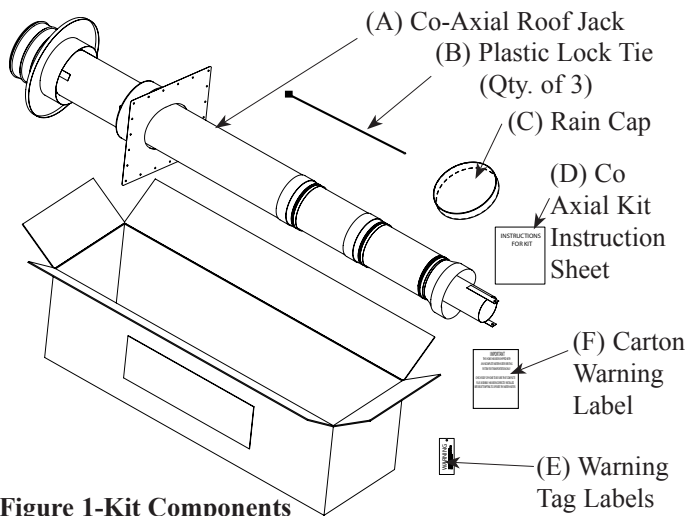

Figure 1-Kit Components
- 1** **Inspect shipment.** Inspect the contents of the kit for possible damage. Verify the quantity of the components in the kit. The kit includes: (A) 1- Co-Axial Roof Jack; (B) 3- Plastic Lock Ties; (C) 1- Rain Cap; (D) 1- Co Axial Kit Instruction Sheet; (E) 3- Warning Tag Labels and (F) 1- Carton Warning Label. Please report any shortage to your local distributor or contact 1-800-432-8373 to get a replacement part. (See Figure 1)